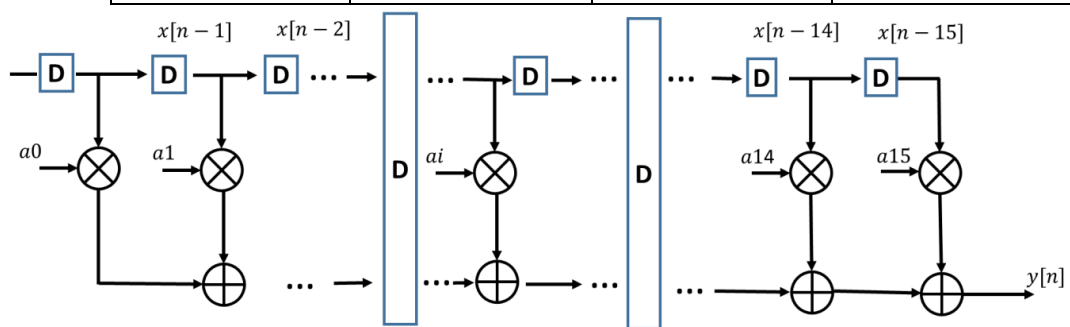

Figure 5. Pipeline architecture.
1. Finish three stage pipeline architecture as figure 5.